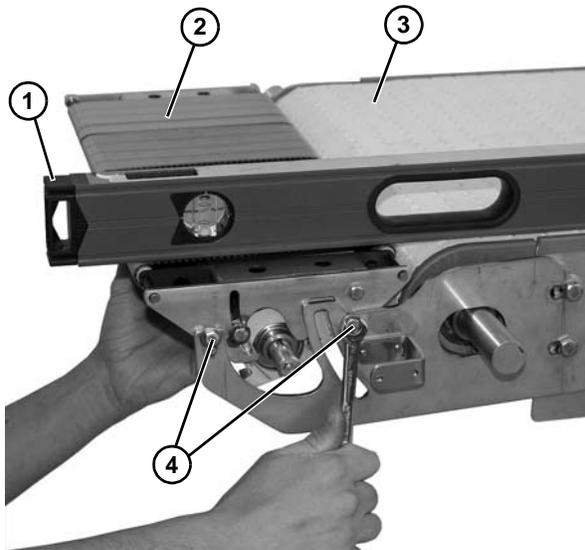

Figure 42
- To adjust height, place level (**Figure 42, item 1**) or straight edge to level power transfer assembly (**Figure 42, item 2**) with conveyor belt (**Figure 42, item 3**). Tighten two bolts (**Figure 42, item 4**) to secure position.